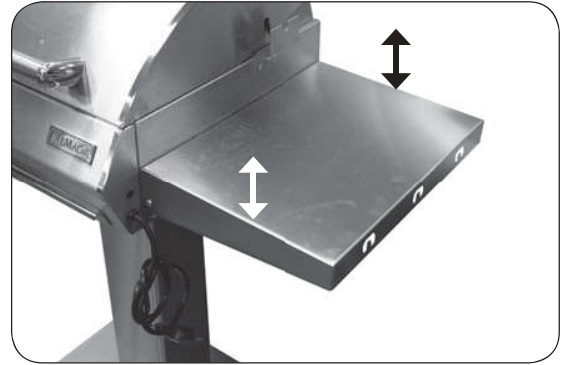

Fig. 15-1 Shelf up and locked
1. To lower the shelf, grab the middle of the shelf on both sides and lift upward (see Fig. 15-1). Then allow the end of the shelf to rotate down as pictured in Fig. 15-2 and Fig. 15-3.